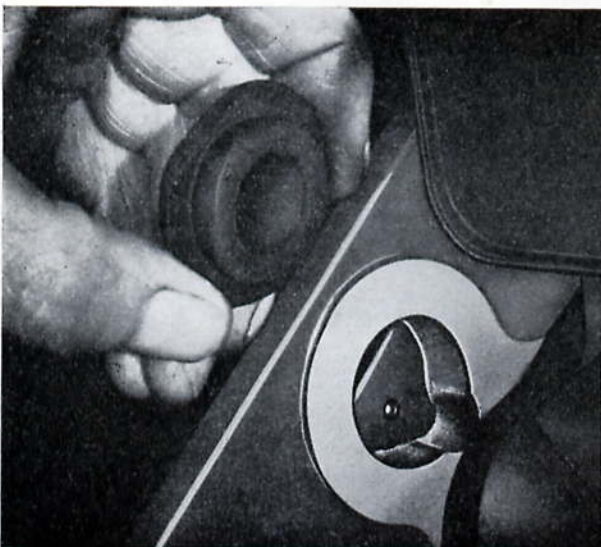

Fig. R.6. The steel ball in the flywheel is shown aligned with the centre of the ignition timing aperture
1. Remove the timing aperture plug (Fig. R.6).
2. Rotate the engine, until the steel ball in the flywheel is aligned with the centre of the timing notch (Fig. R.6). Check that the oil pump gear
2. Remove the timing aperture plug (Fig. R.6).
4. With the engine running at idling speed, direct the light from the lamp into the timing aperture, and check the alignment of the steel ball in the flywheel with the centre of the timing notch (Fig. R.6). To correct the setting, loosen the distributor clamp bolt and turn the distributor slowly, clockwise to advance the timing, or anti-clockwise to retard the timing.